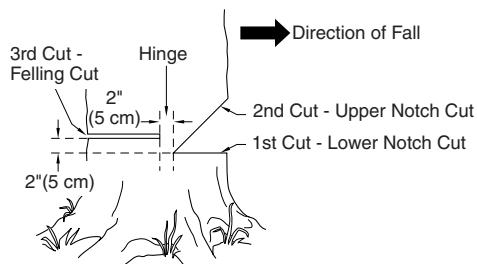

Figure 12 - Felling A Tree
A properly placed felling notch will determine direction tree will fall. Place felling notch on side of tree in direction you want tree to fall (see Figure 12). Follow directions below to create a felling notch.
1. Make lower notch cut as close to ground as possible. Hold saw so guide bar is horizontal. Cut $\frac{1}{3}$ the diameter of tree trunk (see Figure 12). **Note:** Always make this horizontal lower notch cut first. If you make this cut second, tree can pinch chain or guide bar.
Example: If lower notch cut is eight inches deep, start upper notch cut eight inches above it. Cut downward at 45° angle. The upper notch cut should meet end of lower notch cut (see Figure 12).
1. Make felling cut two inches higher than lower notch cut and on opposite side of tree (see Figure 12). Keep felling cut parallel to lower notch cut.
⚠ WARNING: Do not cut all the way through tree. Leave about two inches of tree diameter uncut directly behind felling notch (see Figure 12). This uncut portion acts as a hinge. The hinge helps keep tree from twisting and falling in wrong direction.